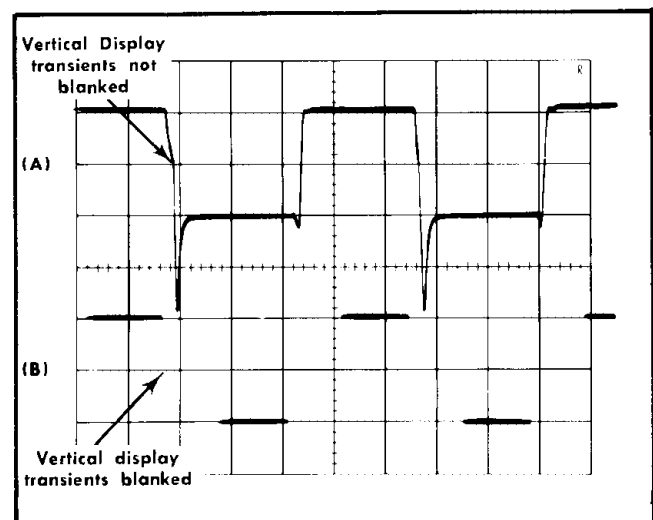

Fig. 5-3. Display presented when calibration oscilloscope CRT cathode selector switch set to: (A) Ext CRT cathode (B) Chopped blanking.
g. CHECK—Calibration oscilloscope display; the vertical display transients should now be blanked out during the switching interval; see Fig. 5-3.